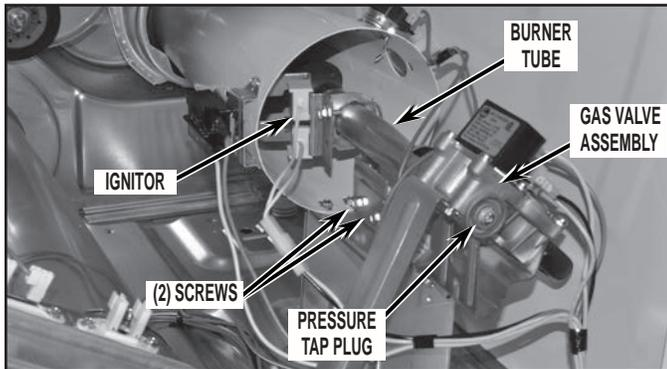

FIGURE 19A
22. Remove the two (2) screws securing the burner tube to the burner base. See *Figure 19A*.
25. Slide the burner tube back in place and using the screws removed in step 22 reattach burner tube to the burner assembly. Securely tighten the two (2) mounting screws. See *Figure 19A* or *19B*.